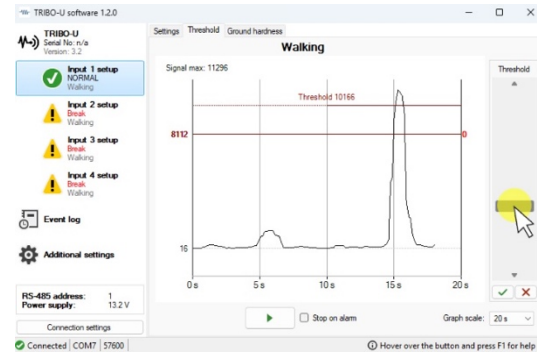

Fig. 18
- With the slider on the right side of the program set the calculated threshold value. (Fig. 18)